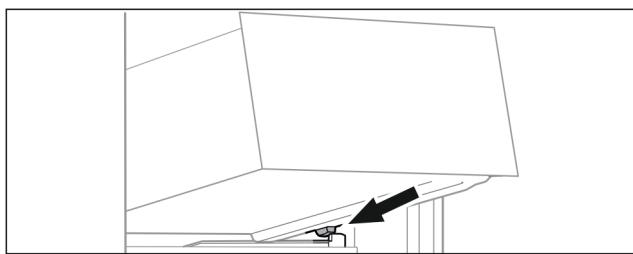

Fig. 66
- ▶ Place drawer at an angle behind the stoppers on the moulded rib. (see Fig. 66)